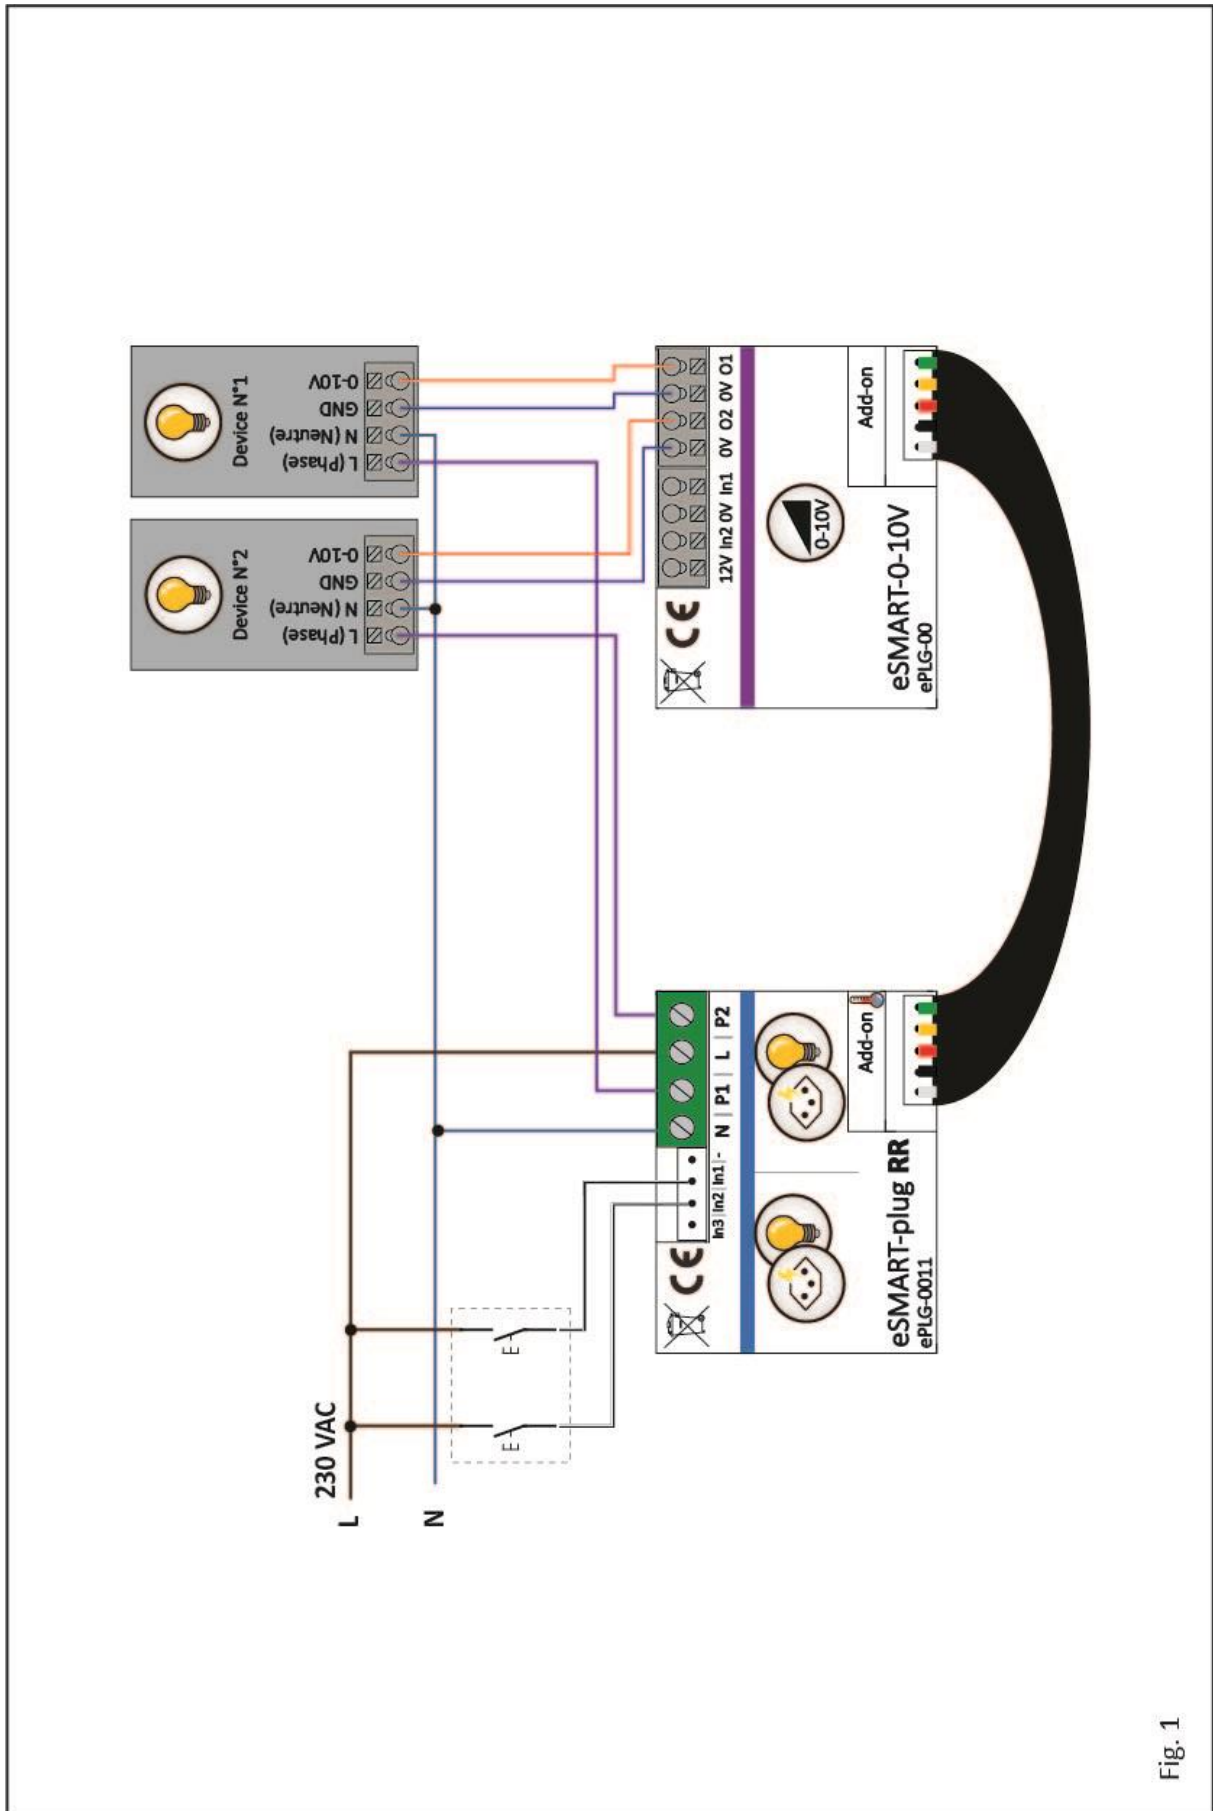

Fig. 1
The eSMART-analog has 4 spring contacts (4, Fig. 1). The eSMART-plug is to be connected to the 230 V AC/50 Hz mains.
- Connect the power supply 230 V AC (1, Fig. 1) to the P and N terminals, namely Phase to terminal P and Neutral to terminal N, as shown in the illustration.
- Connect drivers # 1 and / or # 2 (1, Fig. 1) to the P1 and P2 terminals. I.e., driver # 1 to terminal P1 and / or load # 2 to terminal P2, as shown in the diagram.
- Connect outputs O1 and/or O2 to the driver relative (4, Fig. 1) as shown in the illustration
- If appropriate, connect the eSMART-plug-RR (3, Fig. 1) to the connector provided for that purpose.